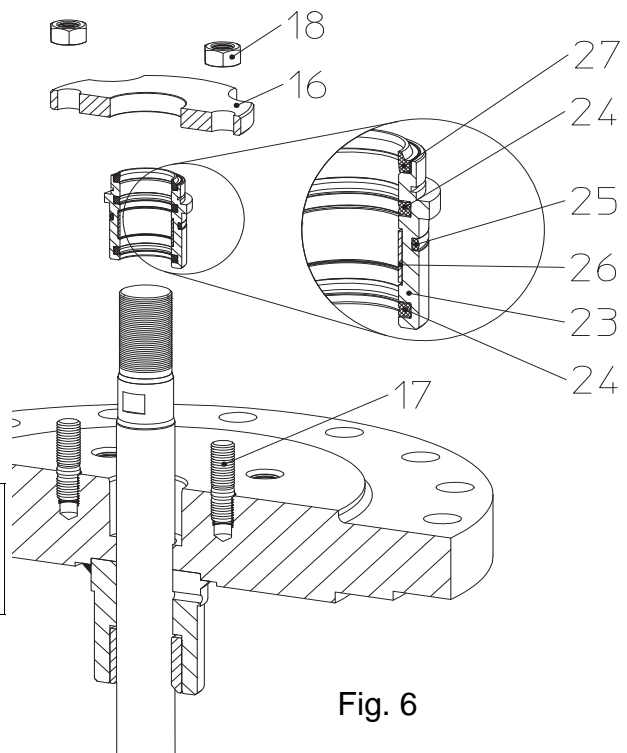

Fig. 6
- When replacing the sealings (pos. 24, 25), make sure that the parts are installed in the correct order and positions (refer to Fig. 6).